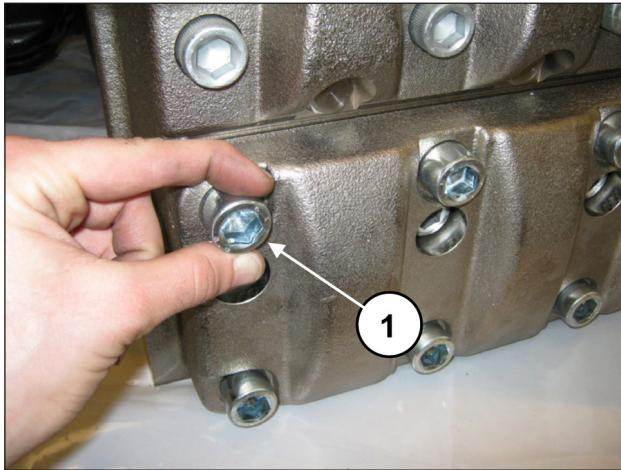
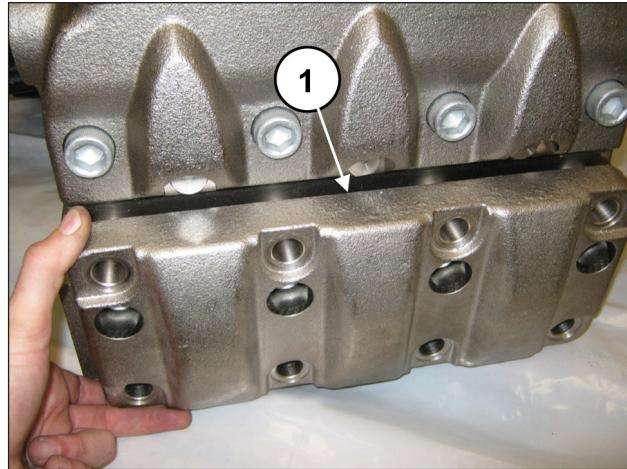

Fig. 138
Fig. 139
Unscrew the 8 M16x45 screws of the suction valve cover (pos. ①, Fig. 138) and remove the cover (pos. ①, Fig. 139).